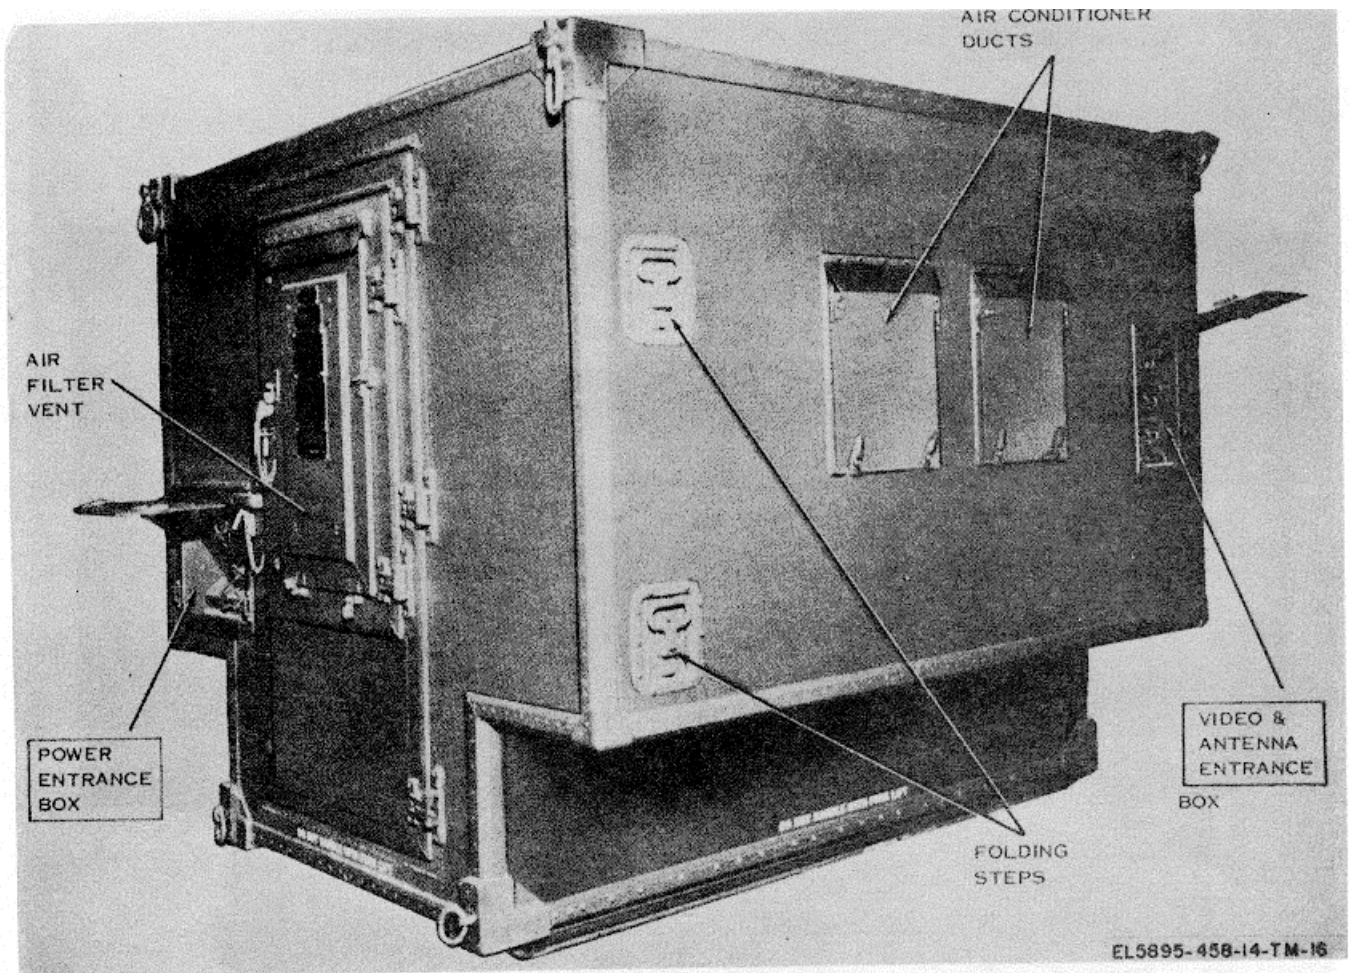

Figure 4-5. Repeater Set, Radio AN/TRC-113, rear curbside view.
a. *Use.* Repeater Set, Radio AN/TRC-113 (fig. 4-5 and 4-6) provides radio and/or cable repeater facilities for forward area pulse, code modulation (pcm) communication systems. The AN/TRC-113 consists of two groups of equipment, and may be used in a 12- or 24-channel pcm system. Although the AN/TRC-113 is primarily a radio or cable repeater, it may be used with other equipment such as Terminal, Telephone AN/TCC-65 for radio terminal applications. Typical applications